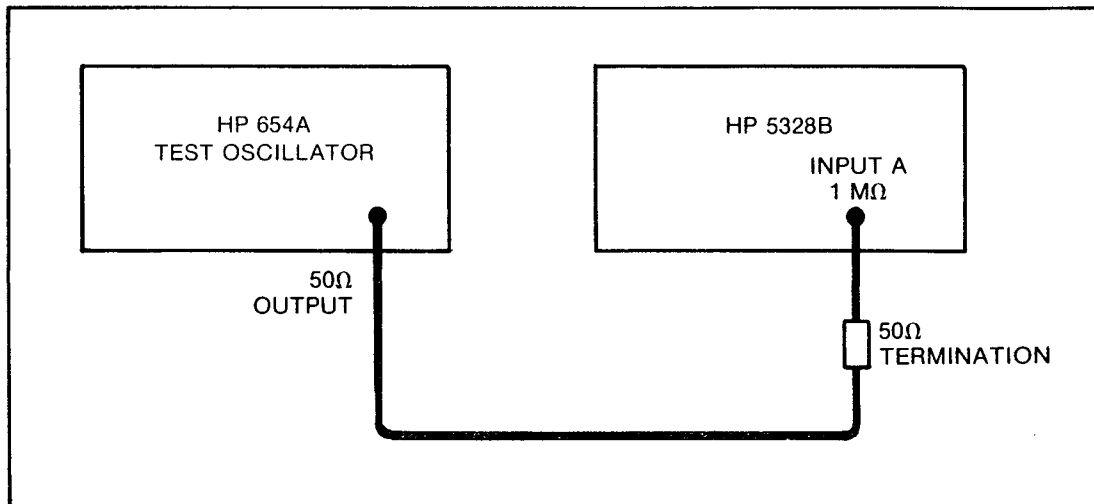

Figure 4-7. Channel A Frequency Response and Sensitivity Test Setup, 10 Hz to 10 MHz
- 1) Set up equipment for this test as shown in *Figure 4-7*.